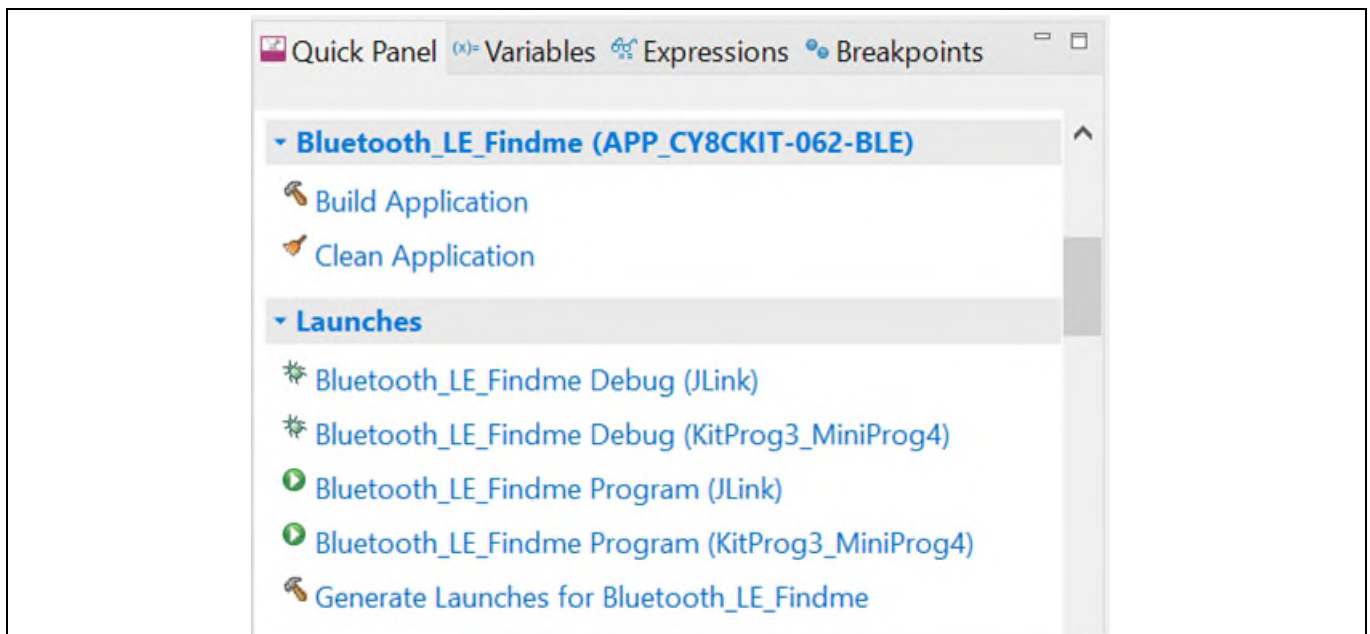

Figure 30 Programming the CY8CKIT-062-BLE device from ModusToolbox™
2. Build and Program the Application: In the project explorer, select the **<App Name>** project. In the Quick Panel, scroll to the **Launches** section, and click the **<App Name> Program (KitProg3_MiniProg4)** configuration as shown in Figure 30.